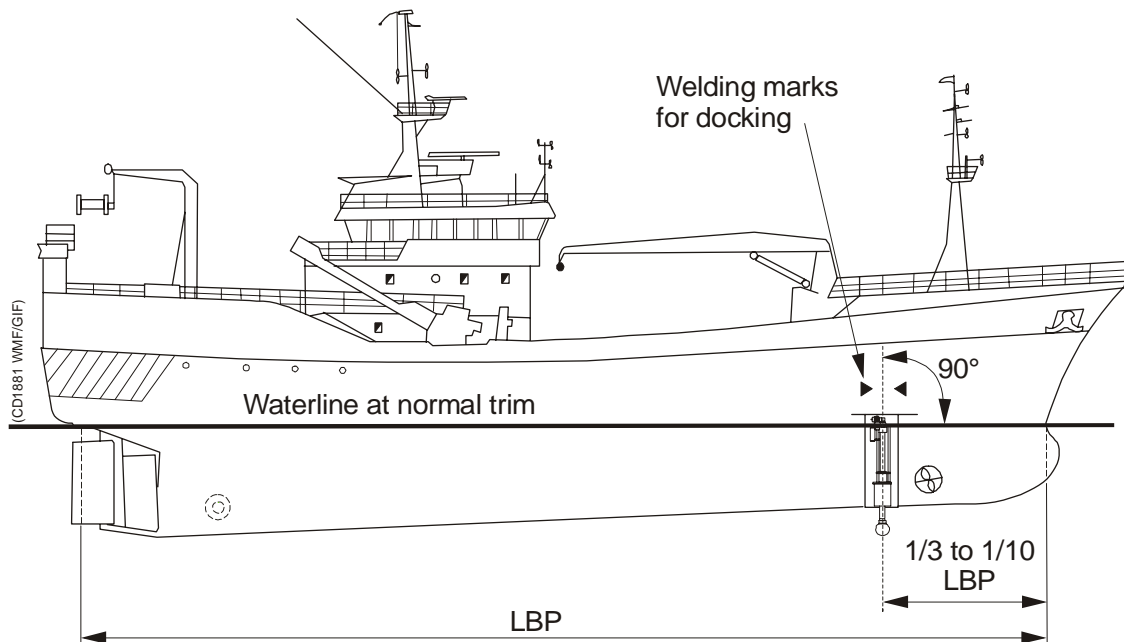

Figure 1 Location of the hull unit
The Hull Unit should preferably be located within 1/10 to 1/3 of the ship’s length between perpendiculars (LBP), measured from the fore perpendicular (FP). Refer to figure 1. Larger deviations from this rule should not be made without consulting Simrad.
To facilitate future docking, mark the position of the trunk as indicated in figure 1.